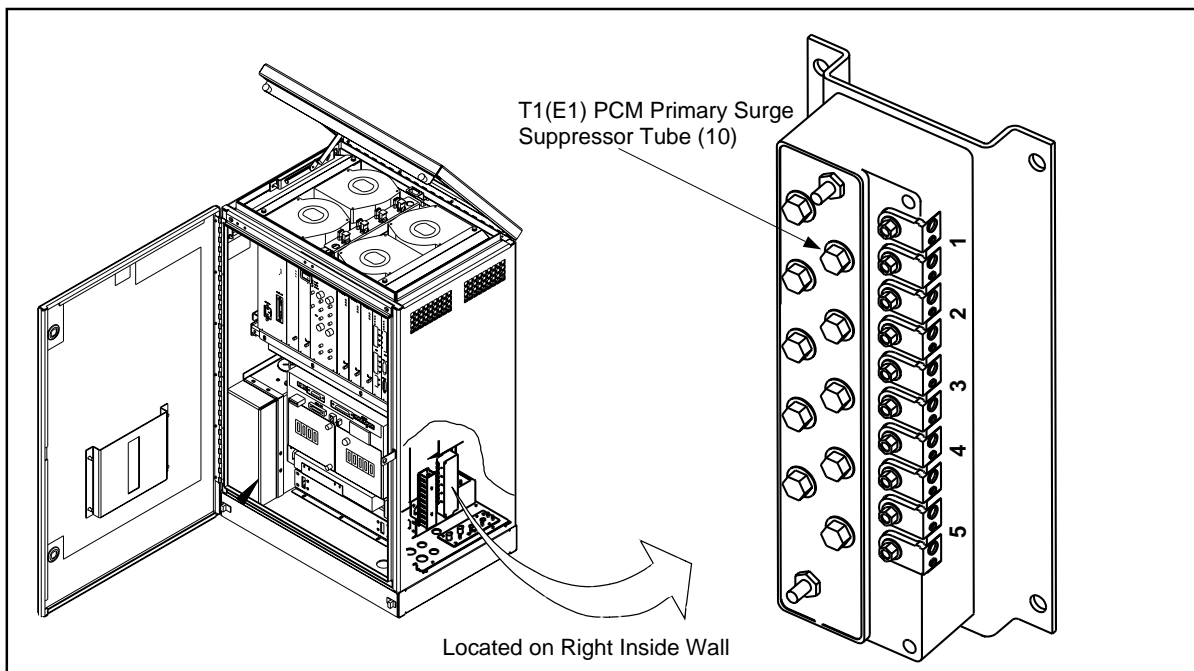

Figure 5-28. T1(E1) Primary Surge Suppressor
4. See Figure 5-28 on page 5-55.